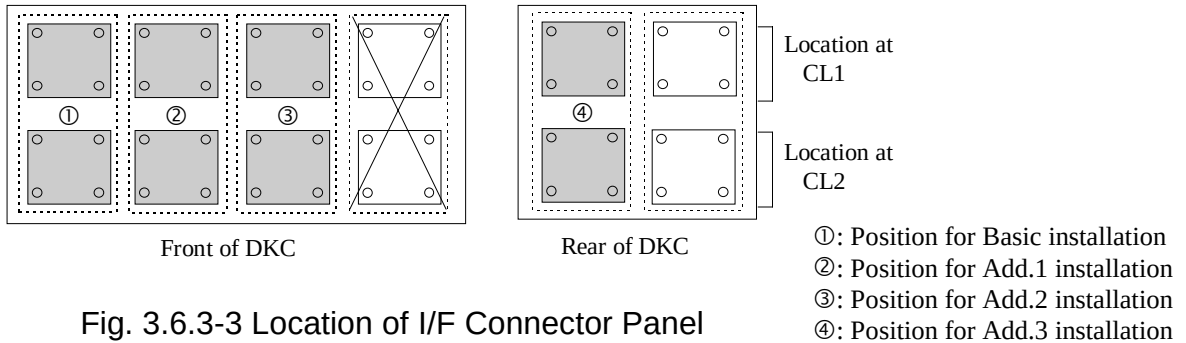

Fig. 3.6.3-3 Location of I/F Connector Panel
- Remove the dummy plate referring to Fig. 3.6.3-5.